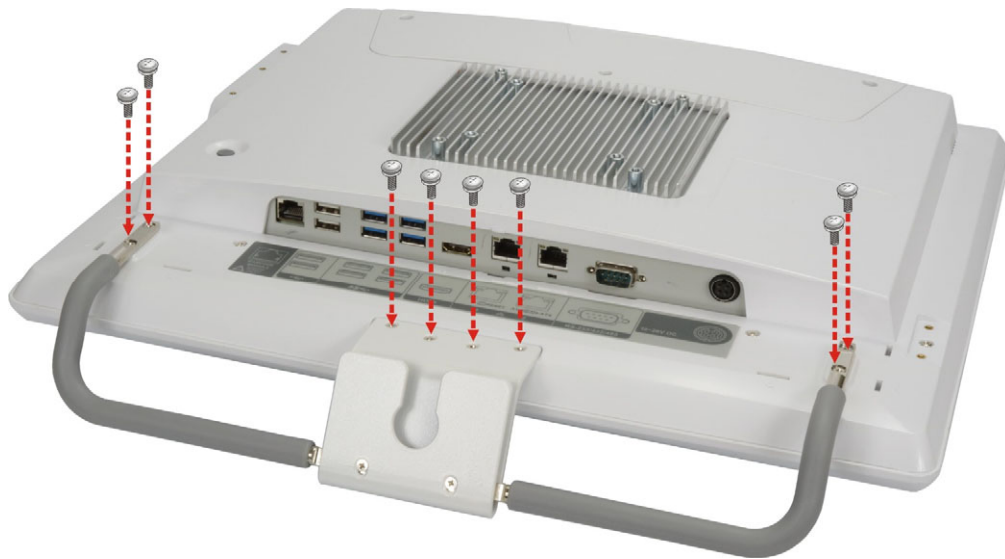

Figure 3-11: Handle Installation
- Step 1:** Locate the retention screw holes for installing the handle on the rear panel (Figure 3-11). If a cable cover is installed on the rear panel, please remove it first.